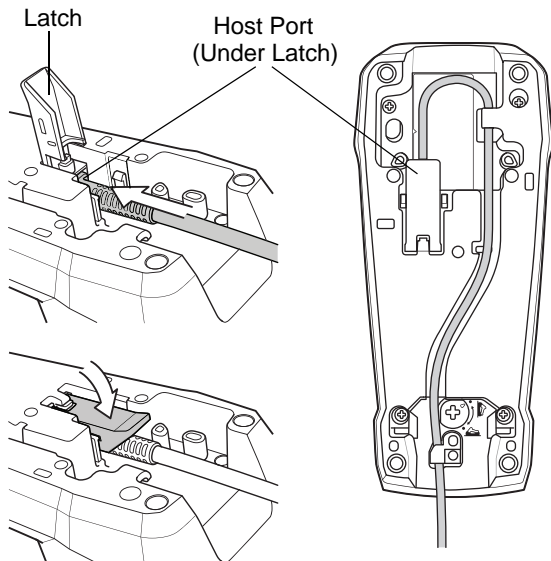

Figure 1-14 *Connecting the Cables to the Cradle*
3. Lift the latch and connect the interface cable into the cradle's host port and then close the latch. See Figure 1-14.